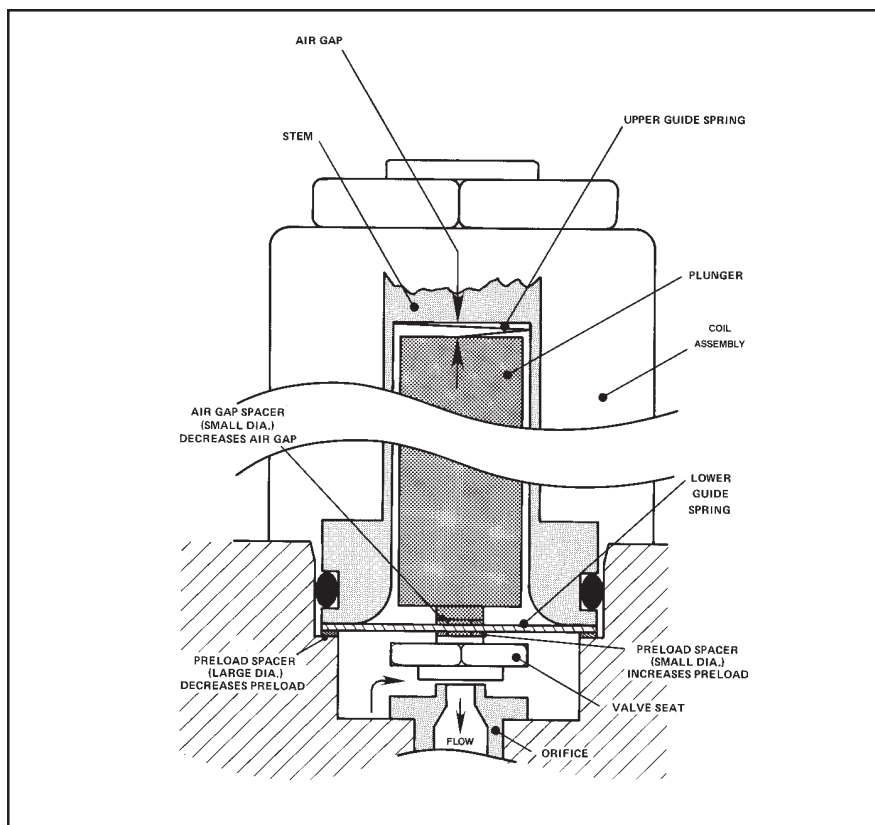

Figure 4-2 Valve Adjusting Spacer Locations
The valve is adjusted in Brooks Mass Flow Controllers by adding spacers (9 and 10) to the control valve assembly to vary the air gap and initial preload. Spacers are used to affect the proper adjustment because they provide a reliable and repeatable means for adjustment. Screw type adjustment mechanisms can change with pressure or vibration and introduce an additional dynamic seal that is a potential leak site and source for contamination. Refer to Figure 4-2 for spacer locations.
- a. Remove the electronics cover (23) from the controller. Insure that the connector from the coil assembly (2) is properly connected to the PC Board after the electronics cover is removed.
- d. Decrease the preload of the valve by 0.005 inches by either removing a 0.005-inch small preload spacer or by adding a 0.005-inch large preload spacer. (Refer to Figure 4-2).
5. If the flow controller output signal is 100% (5.0V) and the valve voltage is greater than 16V, decrease the airgap with a small 0.005 inch airgap spacer. Refer to Figure 4-2. Repeat steps 2 and 3.